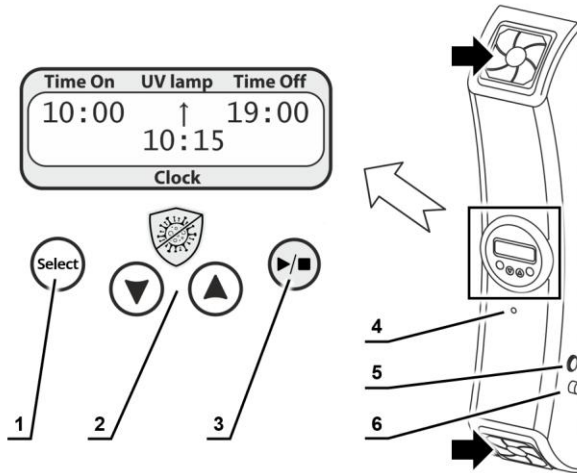
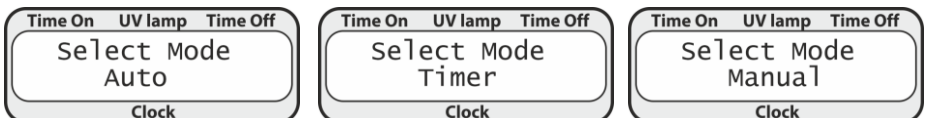

Figure 5. UVR-Mi control panel and front view
Figure 6. Choosing the mode.
6.1. Plug the power cord to a grounded mains socket. Switch on the power switch (fig. 5/5) on the side to the right. Display shows the default screen.
6.2. To start or stop the recirculation manually at any time, press the ►/■ key (fig. 5/3). The ↑ icon appears in the middle of the top line, and the indicator below the control panel lights up (fig. 5/4).
6.3. **Mode and parameter setting.** To set up the operation, press and hold the **Select** key (fig. 5/1) for 8 seconds. You will be prompted to choose between the three modes (figure 6):
- **Timer mode.** Recirculator has a timer in this mode. Powered, switched on and idle unit can be started with one press of the ►/■ key (fig. 5/3) and automatically ends recirculation when the timer expires.
6.3.1. Select the mode using the ▼ and ▲ keys (fig. 5/2), then press **Select** to accept. Display switches to parameter setting, which is unique to each mode, see below.